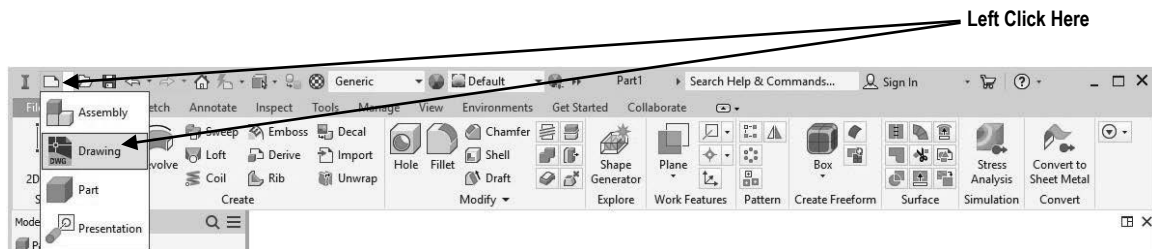

Figure 9
12. After the part file has been saved, move the cursor to the upper left portion of the screen and left click on the drop down arrow to the right of the “New” icon. A drop down menu will appear. Left click on **Drawing** as shown in Figure 9. Once the Drawing Views Panel appears, skip to step 14. If the Drawing Views Panel does not appear, move to step 13.